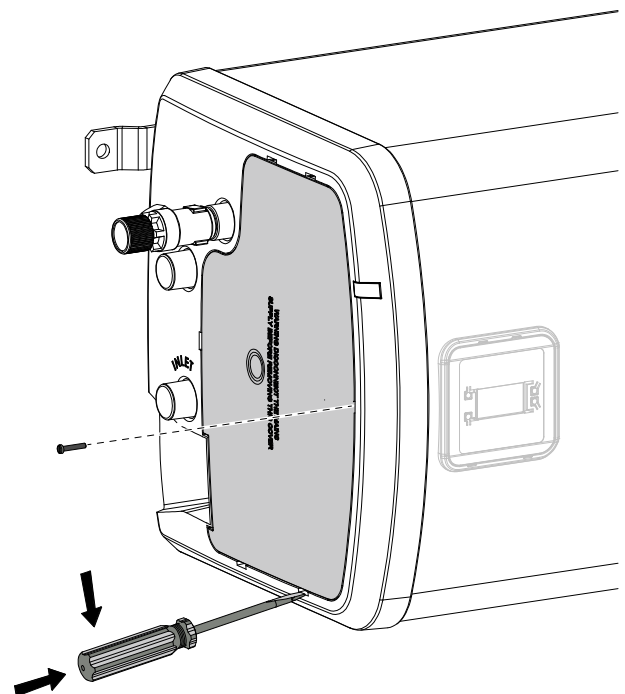

Figure 10: Cover Removal
- ▶ When empty, open the cover to the immersion heater housing. Remove the securing screw then release the cover by carefully inserting a flat bladed screwdriver into the slots around the cover and gently levering outwards until the catches release (see figure 10 page, 25).
- ▶ Open the cover to the immersion heater housing. Remove the securing screw then release the cover by carefully inserting a flat bladed screwdriver into the slots around the cover and gently levering outwards until the catches release (see Figure 10, page 25).